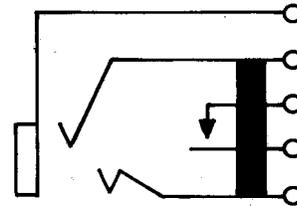

Fig. 26—249A or AM Jack
2.26 249A or AM: These single-mounted jacks (Fig. 26) are used with the 309 or similar-type plug. These jacks are heavily insulated. These jacks are mounted with the springs in a vertical plane. These jacks replace the 143 jacks. The 249AM is equipped with solderless wrapped terminals.